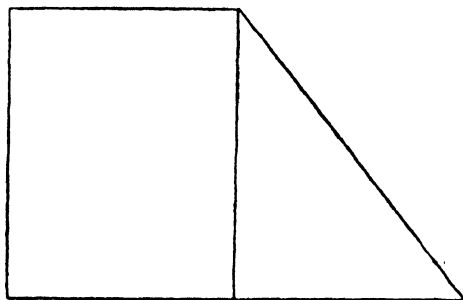

FIG. 9.
**EXERCISE 9.**—Draw Fig. 9, on squared paper, doubling the length of every bounding line and keeping the angles the same. Find the area by dividing into a rectangle and a triangle, and check your result by counting the squares covered.